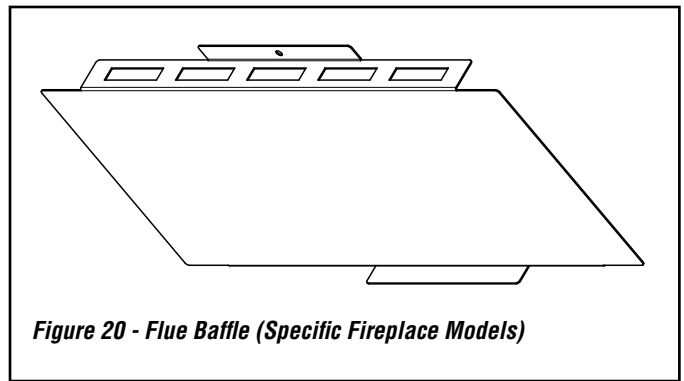

Figure 20 - Flue Baffle (Specific Fireplace Models)
10.2 Specific fireplace models have a **flue baffle** (*Figure 20*) located directly below the restrictor plates and flue pipe exhaust inside the top of the firebox. If installed, temporarily remove the baffle to access the restrictor plates.